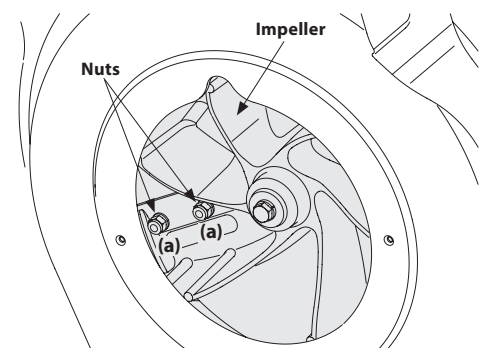

Figure 26
- The nuts (a) on the flat head cap screws can be reached from underneath using a 1/2-inch socket, universal and extension. See Figure 26.